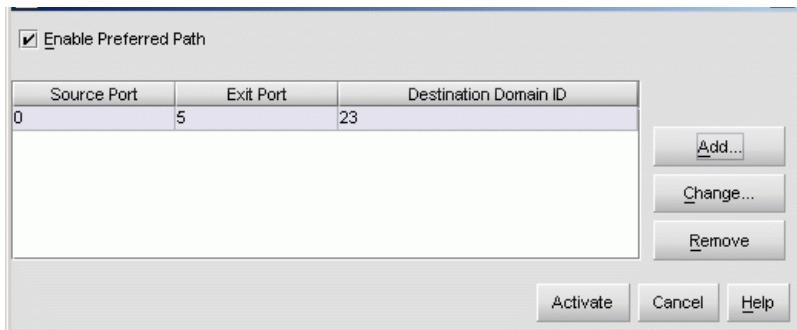

Figure 22 Configure Preferred Paths dialog box
1. At the Hardware View, select **Configure > Preferred Path**. The Configure Preferred Paths dialog box is displayed (Figure 22).